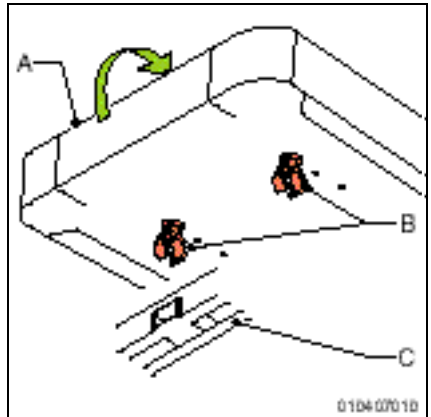

Figure 32
1. Lift the seat (A) (figure 32)